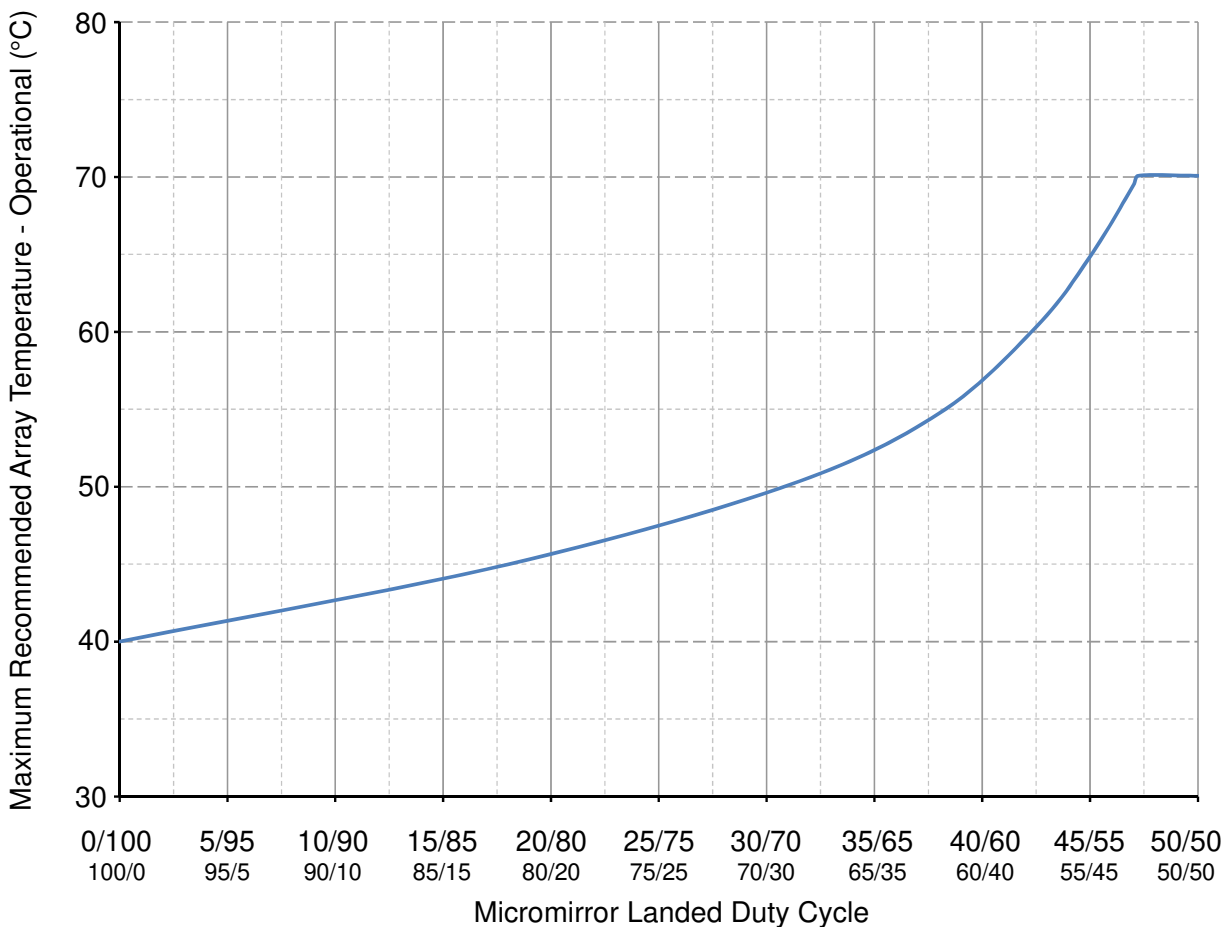

Figure 6-1. Max Recommended Array Temperature - Derating Curve
- (14) Per Figure 6-1, the maximum operational array temperature must be derated based on the micromirror landed duty cycle that the DMD experiences in the end application. See Section 7.7 for a definition of micromirror landed duty cycle.
- (15) Long-term is defined as the usable life of the device.
- (16) Array temperatures beyond those specified as long-term are recommended for short-term conditions only (power-up). Short-term is defined as cumulative time over the usable life of the device and is less than 500 hours.